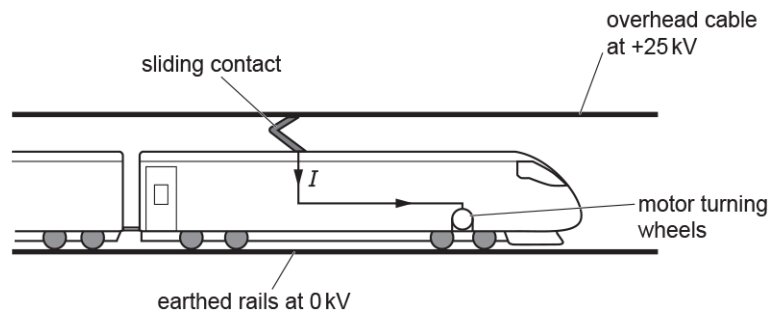

Fig. 1
51. Fig. 1 shows a high-speed electric train.
The overhead cable in Fig. 1 must be tensioned. It is constructed from several equal lengths of wire.